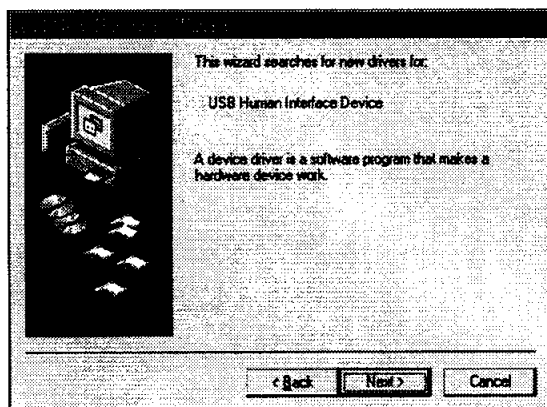
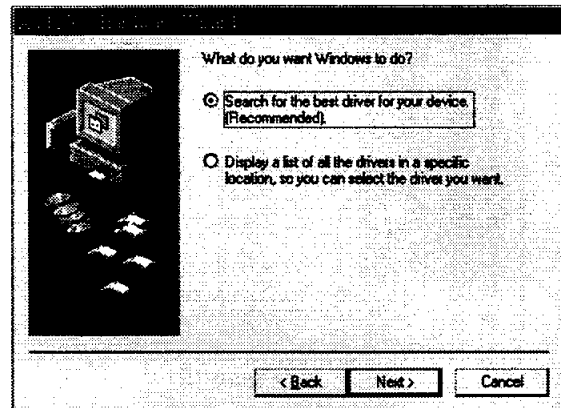
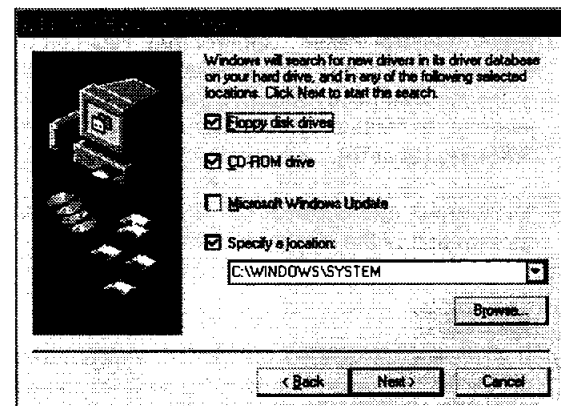

Figure 8
Figure 9
Figure 10
- (3) Then, Figure 8 will appear.
- (4) Click "Next" on Figure 8 and Figure 9 will appear.
- (5) Click "Next" on Figure 9 and Figure 10 will appear.